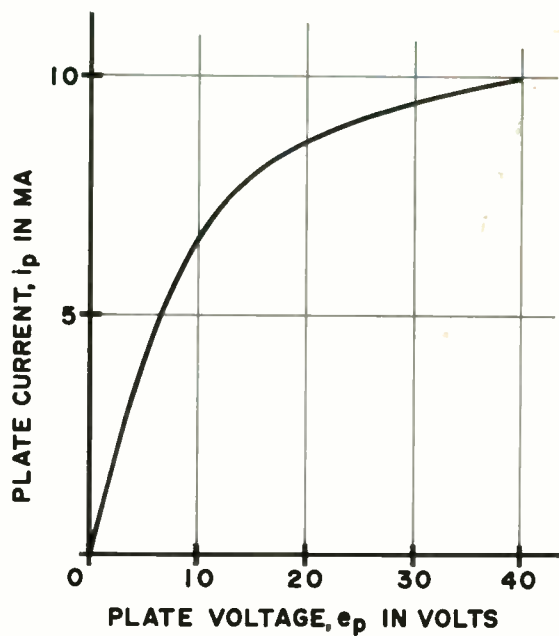

Figure 18 — Plate current  $i_p$  increases as the plate voltage  $e_p$  increases.
**Space Charge** The total number of electrons emitted by the cathode, at a given operating temperature, is always the same regardless of the plate voltage. The electrons in the interelectrode space constitute a negative space charge which tends to repel, *back into the cathode*, the electrons just being emitted. At low plate voltages, only those electrons nearest the plate are attracted to it, constituting a low plate current. However, as the plate voltage is increased, greater numbers of the electrons are attracted to the plate, and correspondingly fewer of those being emitted are repelled back into the cathode. Eventually a high enough plate voltage is reached at which all the electrons being emitted cross over to the plate, and none are repelled back to the cathode. Any further increase in plate voltage can cause no increase in the plate current flowing through the tube. The relation between the increase in plate current  $i_p$  in a diode as the plate voltage  $e_p$  is increased is illustrated in Figure 18.